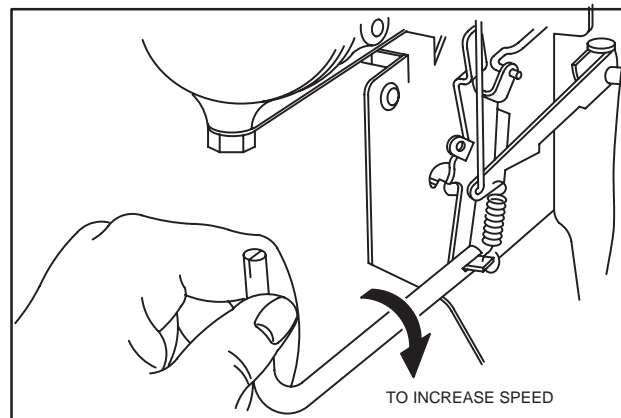

Fig. 352 – ADJUSTING TOP-NO-LOAD RPM
3. Set engine speed per Table No. 13, Page 72 by bending governor tang, Fig. 352.